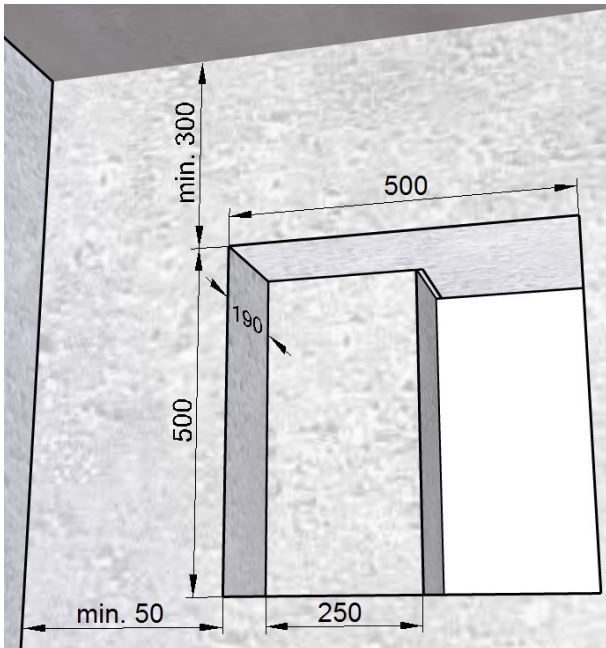

Fig. 6: Wall breakthrough for installation kit **without** filler piece, dimensions in millimetres
- Wall breakthrough with recess (see Fig. 6) for installation kit **without** filler piece M-WRG-M/Fü